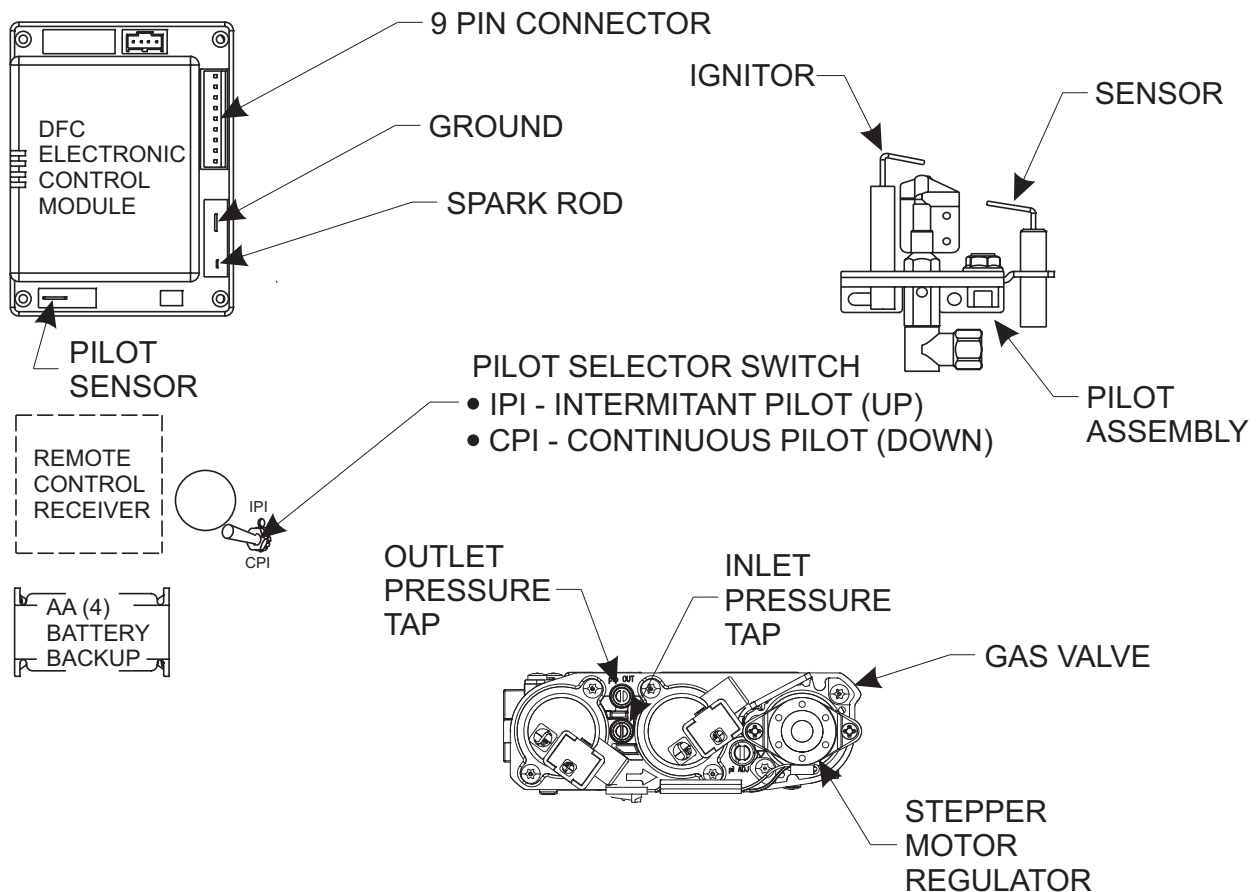

Figure 18
NOTICE: A small toggle switch is located on a bracket that is used to switch from IP (upward position) to the CPI (downward position). See Figure 18.
3. The gas valve has inlet and outlet pressure taps as shown in Figure 18. Refer to appliance Installation Instructions for gas pressure requirements.